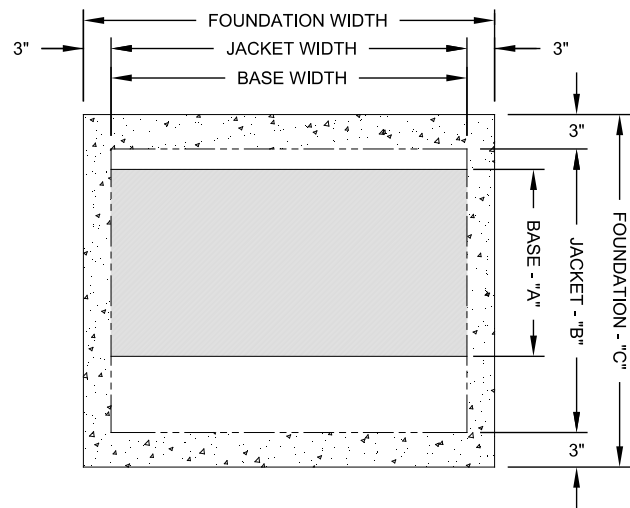

Figure 1.7: Foundation Layout
1. Provide a good, level foundation for the boiler with a minimum of three inches surrounding both the width and depth of the jacket given in Figure 1.7 and Table 1.1. The flooring and structural support system must be suitable for the operating weight of the boiler and any connected piping.